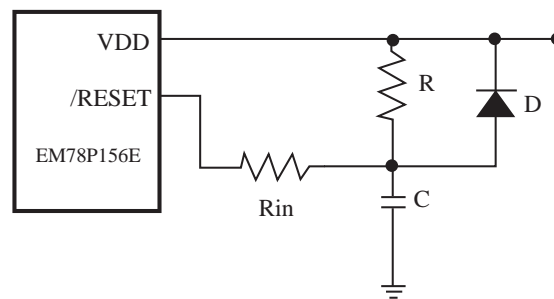

Fig. 14 External Power-up Reset Circuit
The circuit shown in Fig.14 implements an external RC to produce the reset pulse. The pulse width (time constant) should keep long enough until Vdd has reached minimum operation voltage. This circuit is used when the power supply has slow rise time. Because the current leakage from the /RESET pin is about 5A, it is recommended that R should not be greater than 40K. In this way, the voltage in pin /RESET will be held below 0.2V. The diode (D) acts a short circuit at the moment of power-down. The capacitor, C, will be discharged rapidly and fully. Rin, the current-limited resistor, protects against a high discharging current or ESD (electrostatic discharge) flowing to pin /RESET.